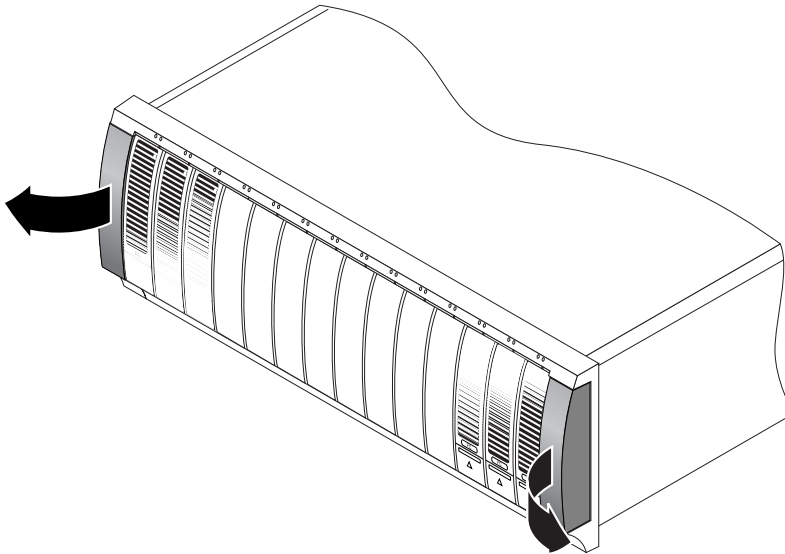

FIGURE 2-13 Removing the End Caps on the Array
1. Unsnap and remove the left and right end caps on the array to permit access to the screw mounting holes (FIGURE 2-13).